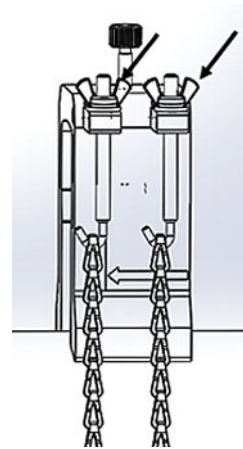

Figure 31: Secure the yoke
7. Tighten the nuts to secure the yoke to the pipe (see Figure 31 below).